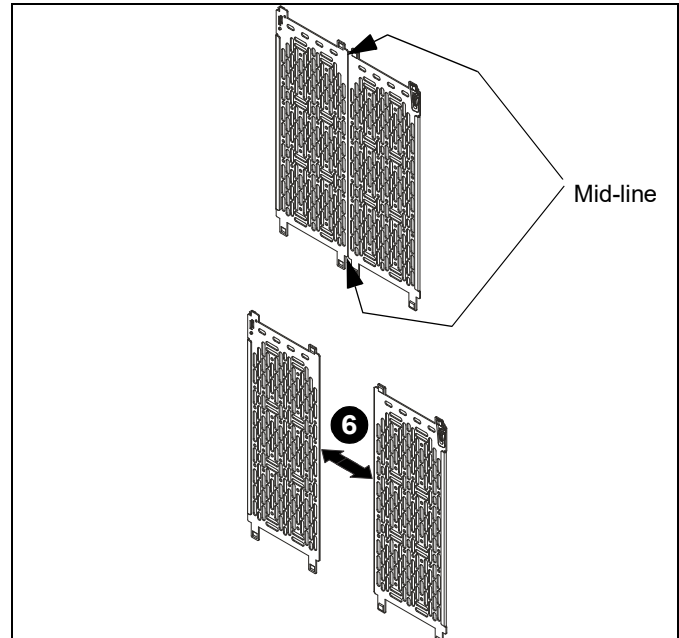

Figure 13
6. If required, break the LeverLock™ backplanes (U) along the scored mid-line. (See Figure 13)